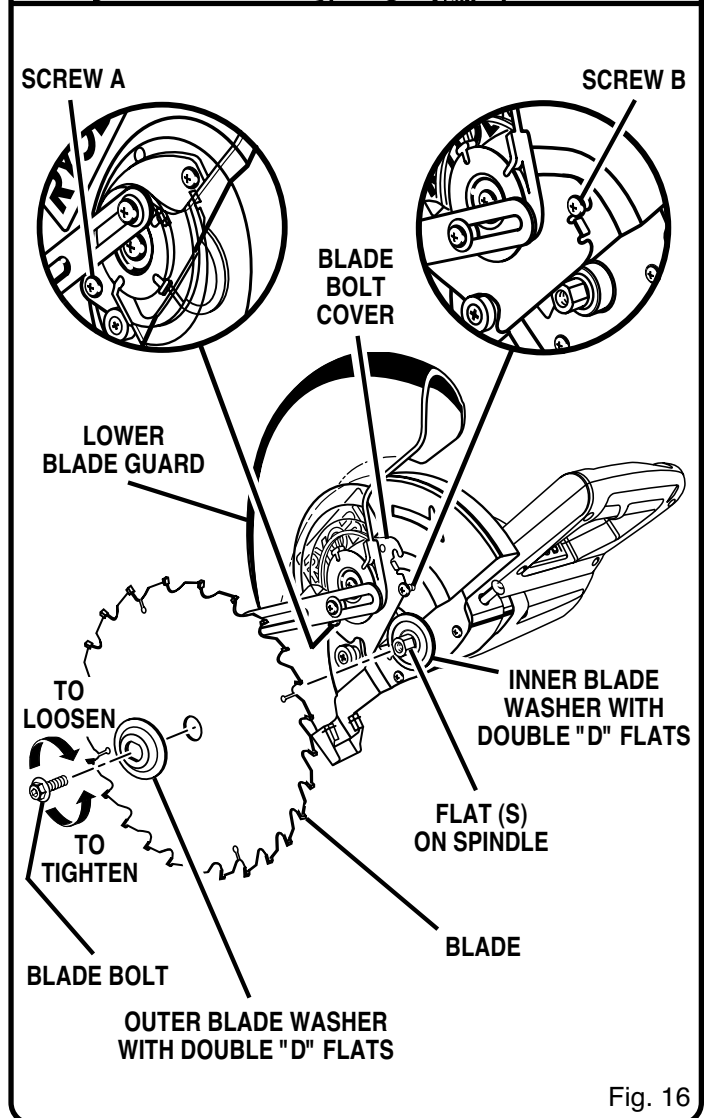

Fig. 16
- Rotate lower blade guard up and remove screw B. Rotate blade bolt cover up and back to expose the blade bolt. See Figure 16.
- Fit saw blade inside lower blade guard and onto spindle. The blade teeth point downward at the front of saw as shown in Figure 16.